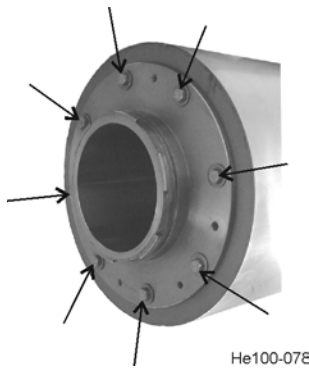

Figure 39 - Removal of Tube to Jacket Bolts
5. Remove the eight (8) 3/8-inch bolts that hold the removable tube to the jacket. See Figure 39.